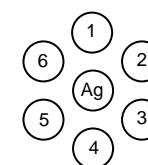

Figure 1
- 50 μ l of **recombinant EIAV-p26 antigen** to the centre well (see Figure 1).
- 50 μ l of the positive control to wells 1, 3 and 5 (see Figure 1)
- 50 μ l of each sample to be tested to the remaining wells 2, 4 and 6 (see Figure 1).